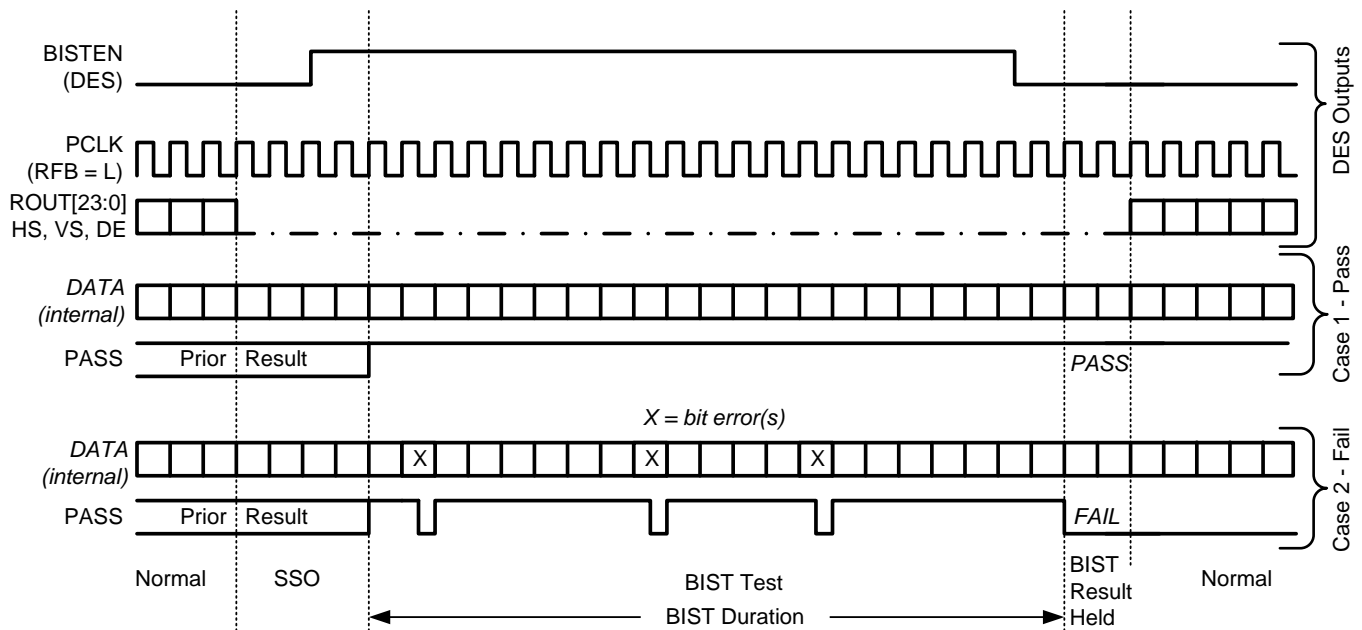

Figure 14. Bist Waveforms
Step 4: The Link returns to normal operation after the deserializer BISTEN pin is low. Figure 14 shows the waveform diagram of a typical BIST test for two cases. Case 1 is error free, and Case 2 shows one with multiple errors. In most cases it is difficult to generate errors due to the robustness of the link (differential data transmission etc.), thus they may be introduced by greatly extending the cable length, faulting the interconnect, reducing signal condition enhancements (Rx Equalization).